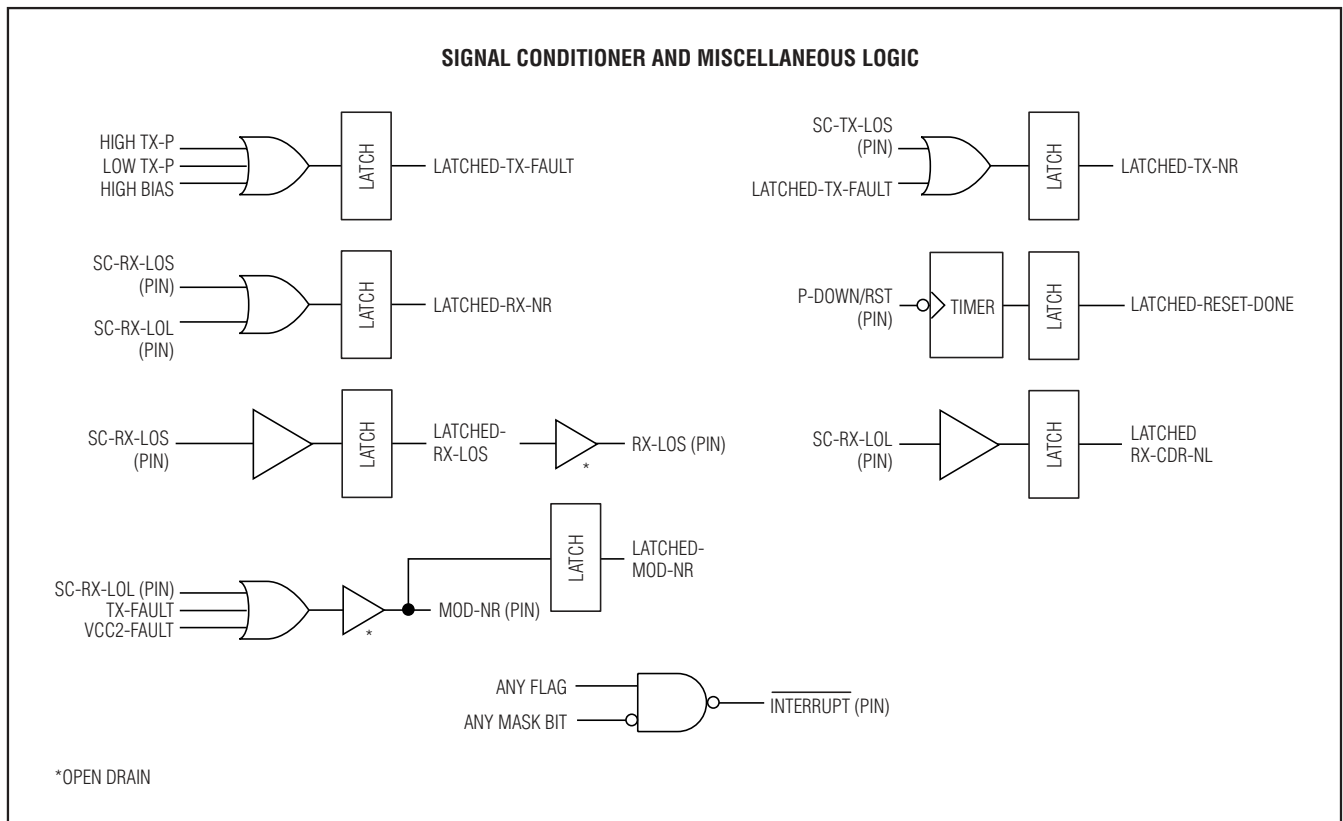

Figure 11. Signal Conditioner and Other Logic
The DS1862A also has flags that are set by certain logical conditions on signal conditioner (SC) pins: SC-RX-LOL, SC-RX-LOS, SC-TX-LOS. Similarly, for each latched signal conditioner flag there are also mask bits that are capable of preventing the alarm or warning flag from causing an $\overline{\text{INTERRUPT}}$ pin to assert. Again, flags are cleared automatically whenever their memory address is read. See Figure 11 for more detail.